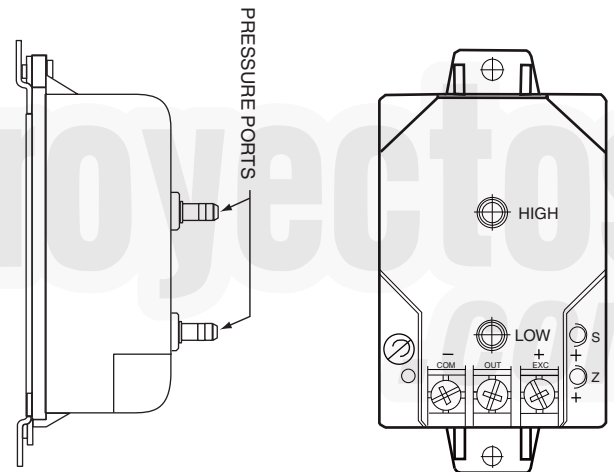

Fig. 54 — Transducer Details
3. Connect a 24-vdc power supply to transducer terminals EXC(+) and COM(-). See Fig. 54.
5. With both pressure ports open to atmosphere adjust the Zero (Z) screw potentiometer on the transducer and read the multimeter until the desired current output at 0 in. wg pressure is obtained (see Fig. 54).